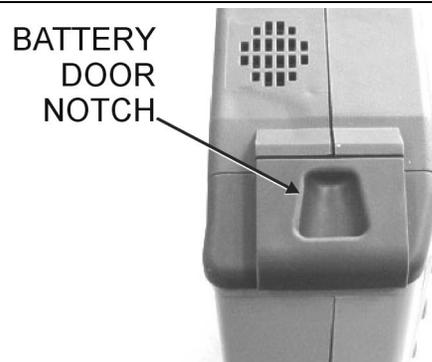

Figure 8. Battery Access Door Notch
2. Place a finger in the battery access door notch and push the door down towards the bottom of the instrument, as illustrated in Figure 8.